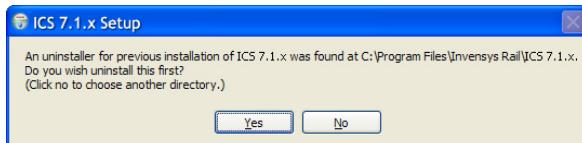

Figure 5.13 Setup Wizard “Welcome” dialog box
- e) Jump to step h below if Windows finds an installation program and displays the Setup Wizard "Welcome" dialog box (figure 5.13). Otherwise, continue with step f.